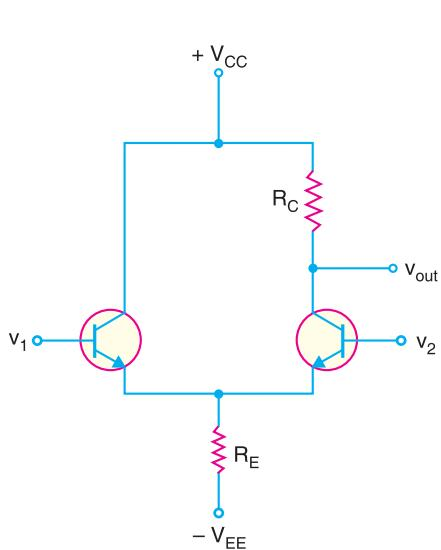
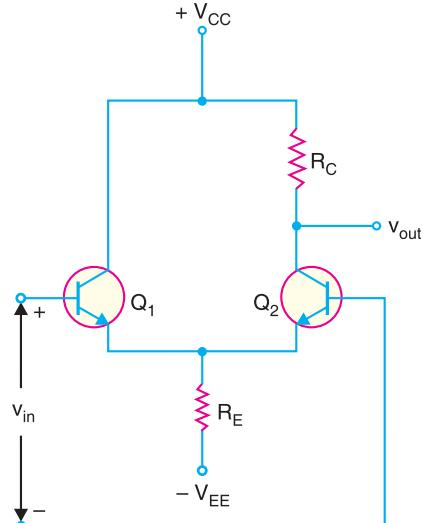
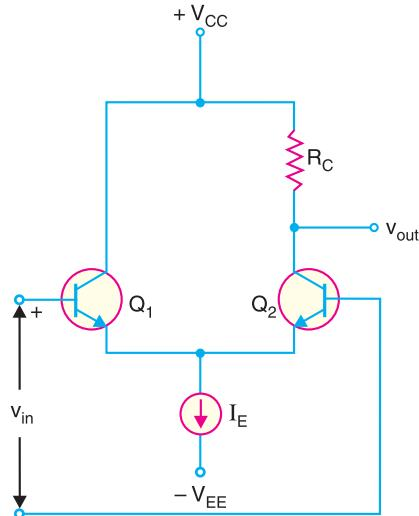
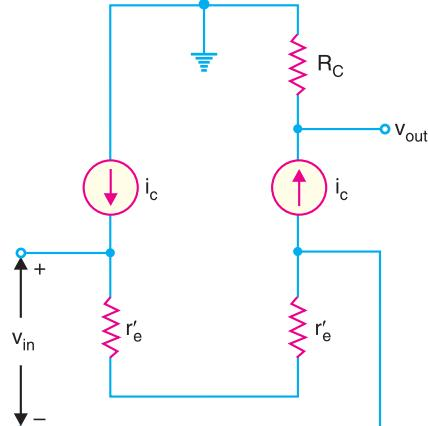

Fig. 25.27
Fig. 25.28
Fig. 25.29
Fig. 25.30
A differential amplifier (DA) has a noninverting input and an inverting input. Fig. 25.27 shows the differential amplifier (DA) that is used in IC OP-amps. Note the circuit has double-ended input and single-ended output.
If you look at the differential amplifier circuit in Fig. 25.27, it responds to the difference between the voltages at the two input terminals. In other words, DA responds to v_{in} ($= v_1 - v_2$). Therefore, the circuit shown in Fig. 25.27 can be drawn as shown in Fig. 25.28.
Ideally (i.e., V_{BE} is negligible), the tail current I_E in Fig. 25.27 is $I_E = V_{EE}/R_E$. Once the values of V_{EE} and R_E are set, the tail current is constant. Therefore, to simplify a.c. analysis, we can replace the tail current by a current source (I_E) as shown in Fig. 25.29. This will simplify the a.c. analysis of the circuit with almost no loss of accuracy.
A.C. Equivalent Circuit. We can easily find the a.c. equivalent circuit of differential amplifier by applying the usual rules to Fig. 25.29. The rules are to short all the capacitors, and reduce all d.c. sources to zero. Since a differential amplifier has no capacitors, all that we have to do is to reduce the d.c. sources to zero. Reducing a voltage source to zero is equivalent to replacing it by a short. Reducing a current source to zero is equivalent to opening it. In Fig. 25.29, this means ground the V_{CC} point, ground the V_{EE} point and open the current source. Applying these conditions to Fig. 25.29, we get the a.c. equivalent circuit of differential amplifier shown in Fig. 25.30.
Voltage gain. Fig. 25.30 shows the a.c. equivalent circuit of a differential amplifier. This is how a differential amplifier looks to an a.c. signal. Note that r'_e (= 25 mV/d.c. emitter current) is the a.c. emitter resistance. Since the two r'_e's are in series, the same a.c. emitter current exists in both transistors. The a.c. emitter current is given by;